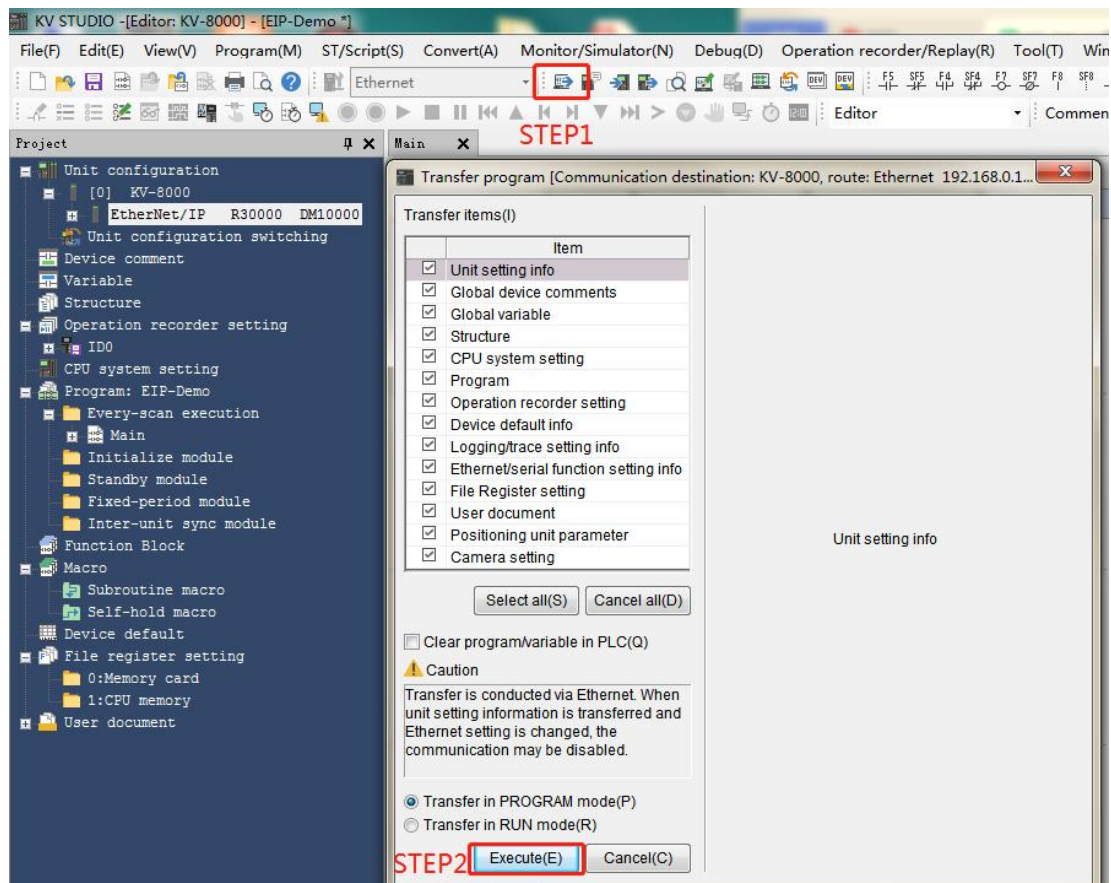

Figure 5-1-23
- As shown in Figure 5-1-23, PLC transmission download, click "Yes (Y)" in sequence.